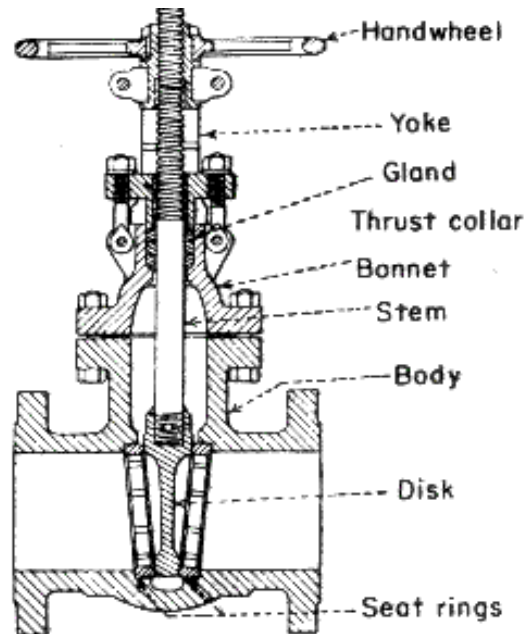

Figure 3: Valve construction
- (a) **Figure 3** is the valve body. Explain the usage of Stem and Seat Ring